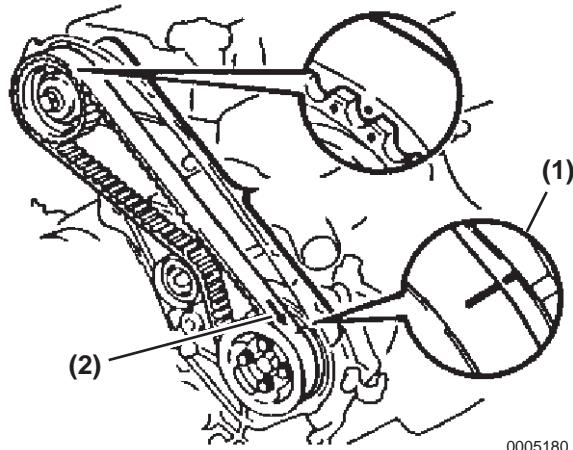

Figure 5-181
- When reusing the timing belt, install the timing belt by aligning the mark (**Figure 5-181, (1)**) marked before removal and the arrow mark (**Figure 5-181, (2)**) to the engine revolution direction.